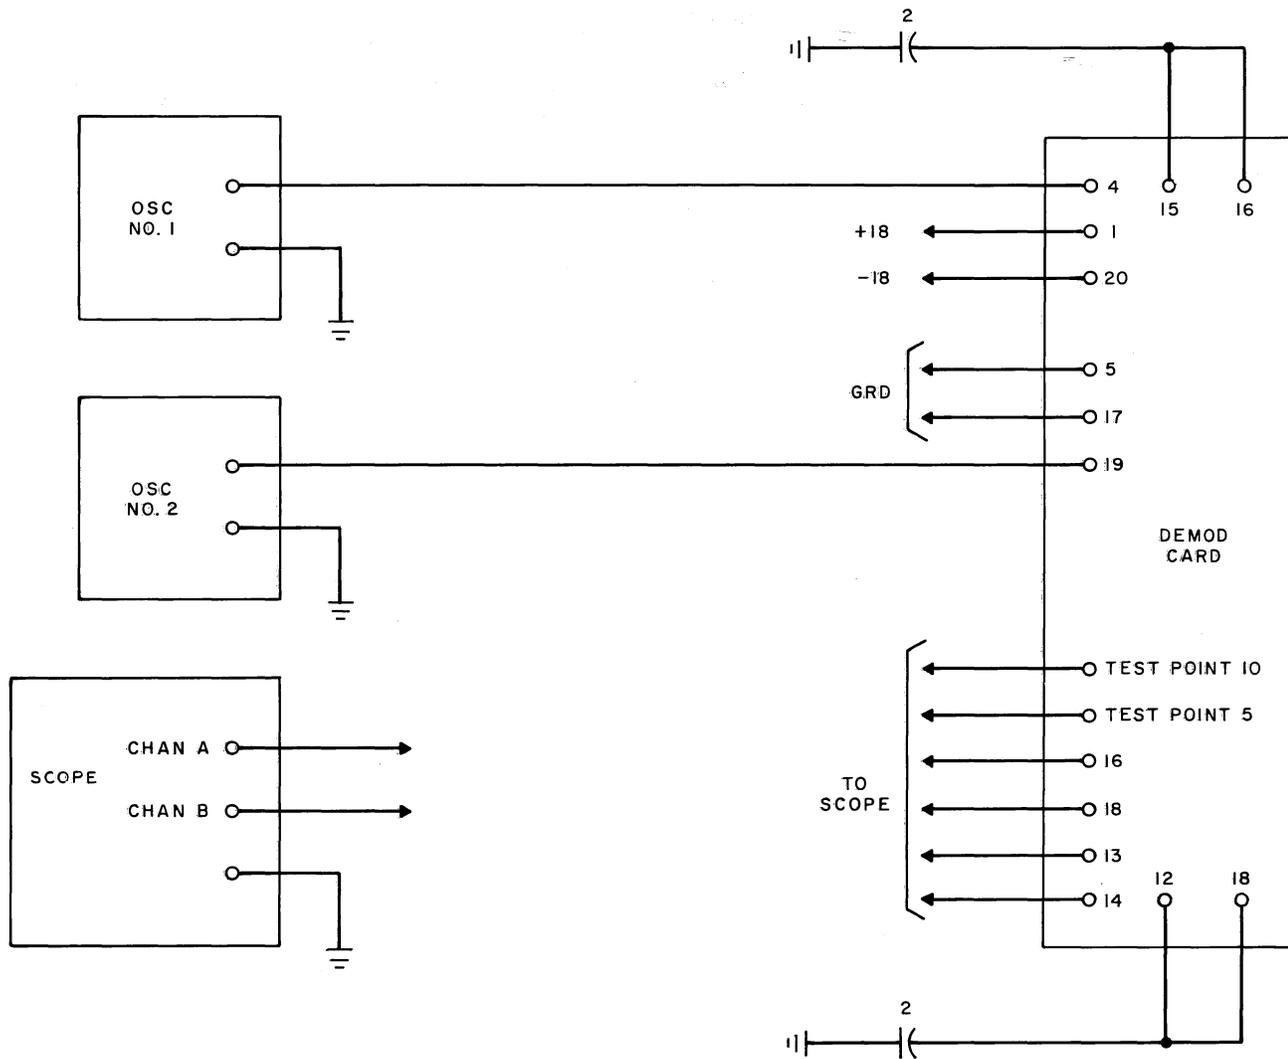

Fig. 53 - (Demodulator Card Test)
- (1) Connect the card as in the suggested test circuit shown in Fig. 53.
- (2) With the amplitude control of oscillator No. 2 set to 0, temporarily connect ground to input terminal 19.
- (3) Set the controls of oscillator No. 1 to produce a 0.2 \pm 0.005 volt rms signal at 1800 cps between input terminal 4 and ground. The wave form